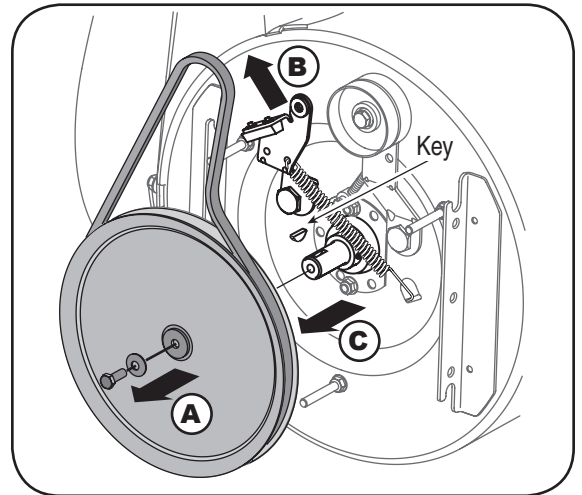

Figure 30
10. a. Using a 1/2" wrench, remove the hex screw and cupped washer from the center of the pulley on the auger housing. See Figure 30.